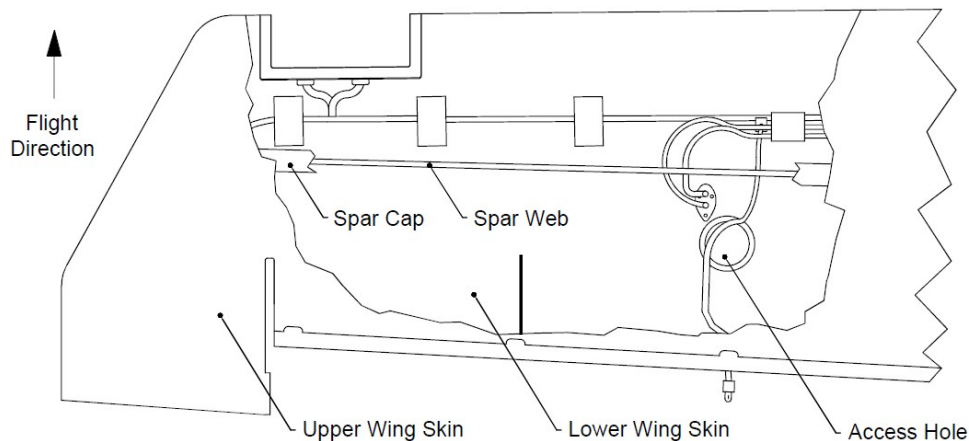

Figure 33: Left Wing Access Hole
13.1.2 Gain access to the left wing (aft of spar section) through the outboard Access Hole, as shown in Figure 33.